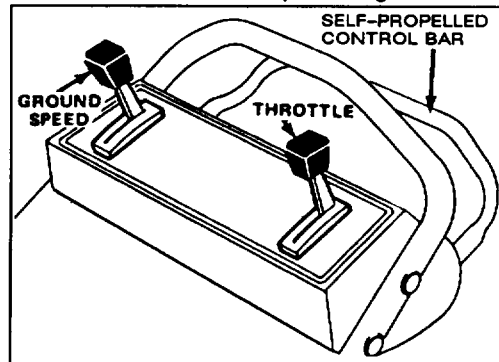
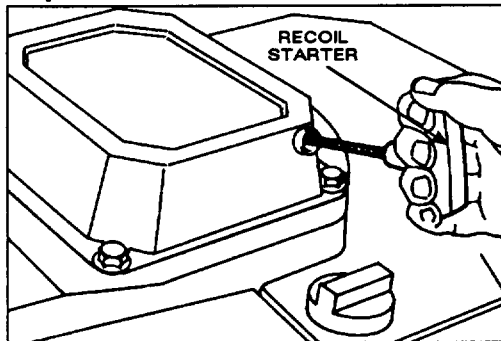
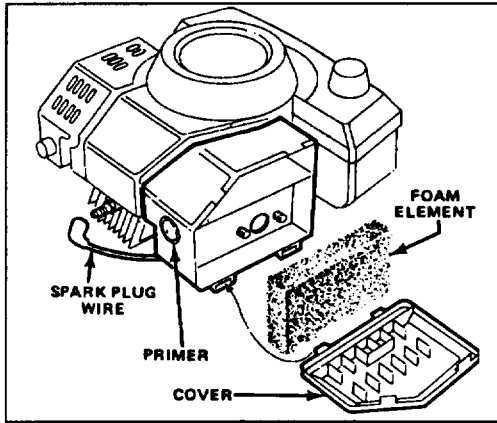

Figure 6
Figure 7
Figure 12
1. CONTROLS—Throttle, ground speed control, and blade/self-propelled control bar are on upper handle (Fig. 6). Recoil starter is on top of engine.
3. **STARTING**—Move ground speed control to "N" and throttle to CHOKE (Fig. 6). Cover hole in center of primer with thumb and push once (Fig. 12). Brace yourself and mower securely by placing your foot on the top left side of mower housing where it says "PLACE FOOT HERE WHEN STARTING". Pull fingertip starter out until positive engagement results; then pull vigorously to start the engine (Fig. 7). Regulate throttle as desired when engine starts.
5. **STOPPING** (Fig. 6)—Release control bar to stop blade and traction drive. Move ground speed control to "N". To stop engine, move throttle to OFF. Pull wire off spark plug if mower is unattended or not used.
2. Lift tabs at top of air cleaner cover and pivot cover down. Clean cover thoroughly (Fig. 12).
3. If outside of foam element is dirty, remove it from air cleaner body (Fig. 12). Clean thoroughly.
1. Stop engine and pull wire off spark plug (Fig. 12).